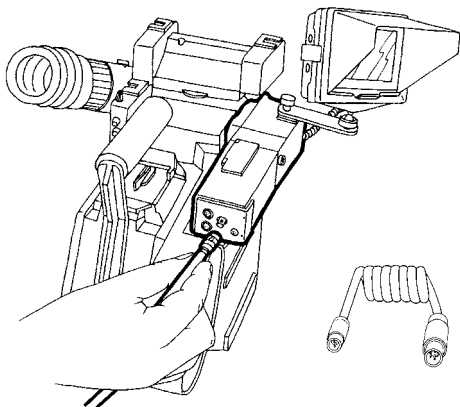

FIG. 61 – MOVIECAM – CEI V
Due to the built-in frame store, the CEI-V allowed flicker free video reproduction in the full range of filming frame rates, 2-50 fps, allowed by MOVIECAM. Therefore, the CEI-V camera must be connected by using the special cable (Fig. 61) to the MOVIECAM SYNC OUT plug that provide the shutter pulse (SP). The difference between both new video cameras types is that the one is conceived to be use in countries with the NTSC video system and operating with 60 Hz and the other one is conceived for PAL/50 Hz operation. By using the adequate video camera type and by correct set up of the switches, you will obtain high-quality flicker-free video images, independently from the chosen frame rate.